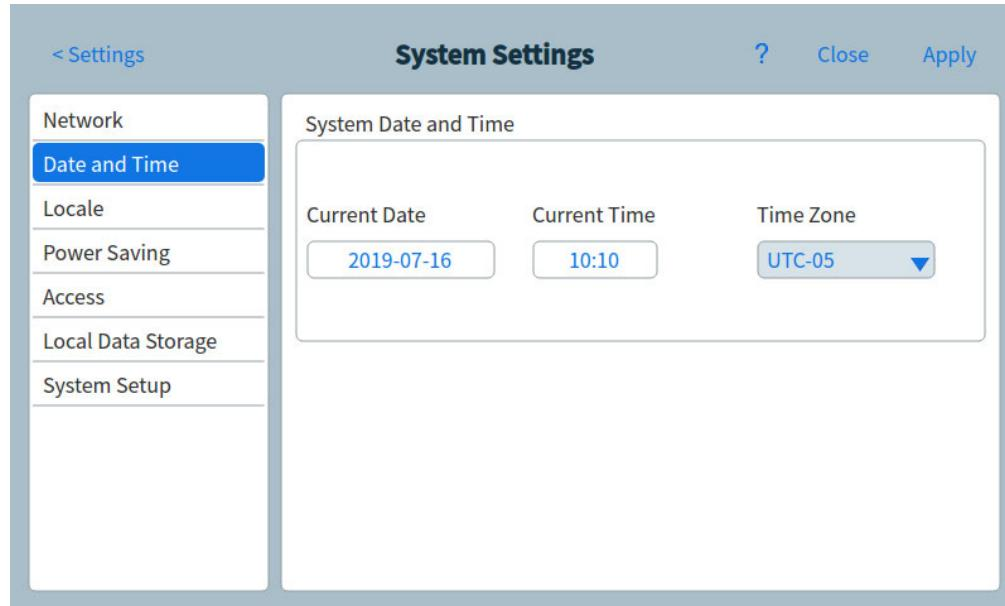

Figure 49. System Settings page
- 1 From the System Settings page, select the **Date and Time** page selection button. The Date and Time page appears. See Figure 49.